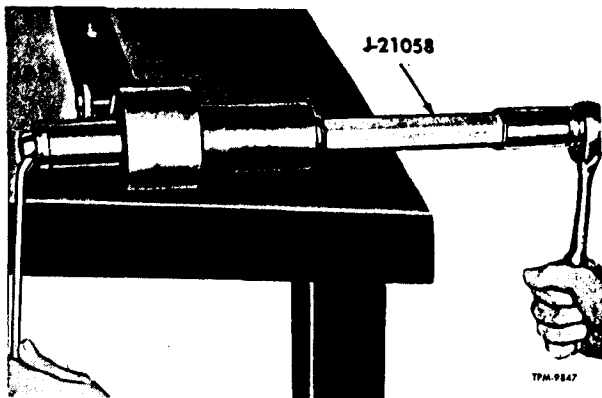

Figure 5—Removing Rubber Type Eye Bushing (Typical)
Remove and replace steel backed rubber bushing in radius leaf using bushing remover and installer (J-21058 Tool Set) as shown in figures 5 and 6.
5. Using bushing remover and installer (J-21058) (figure 5) remove bushing.
Remove and replace steel backed rubber bushings in radius link using bushing and installer (J-21058 Tool Set) as shown in figures 5 and 6.